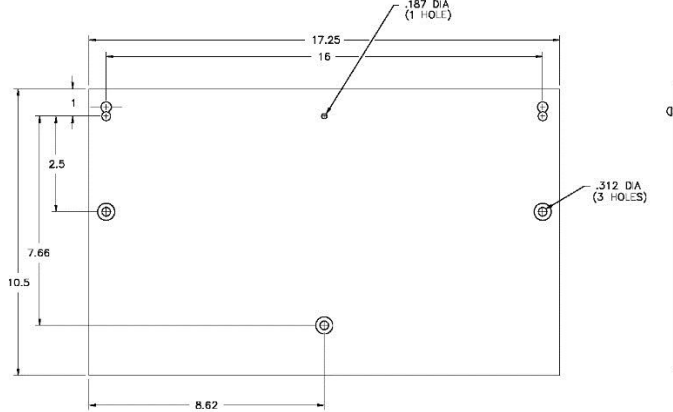

Figure 2
6. Mount cabinet directly to wall or use optional mounting plate MBB. (Figure 2)